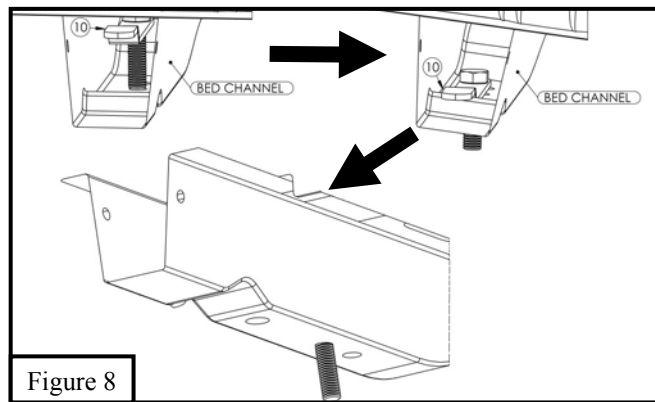

Figure 8
- Locate (1) M12 bolt plate (Item 10) and insert through opening of bed channel and insert the M12 bolt through the hole. **See Figure 8.**